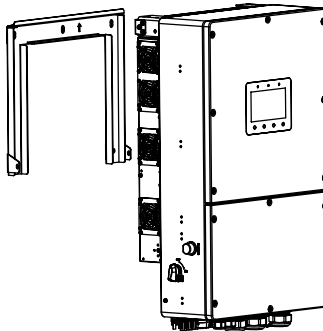

Figure 3.7 Wall mount bracket
2. Lift up the inverter (be careful to avoid body strain), and align the back bracket on the inverter with the convex section of the mounting bracket. Hang the inverter on the mounting bracket and make sure the inverter is secure (see Figure 3.7)